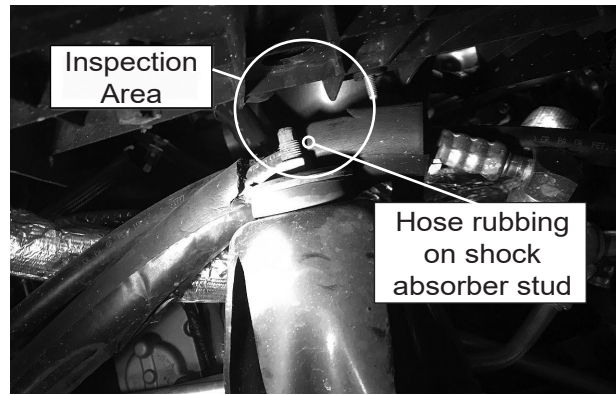

Figure 3 — Possible Hose Damage
8. Look for interference and damage to the hoses and fittings where the air conditioner hoses are close to other chassis components (refer to Figures 3, 4 and 5). Use the Decision Chart on page 4 to assist in determining what action is required.